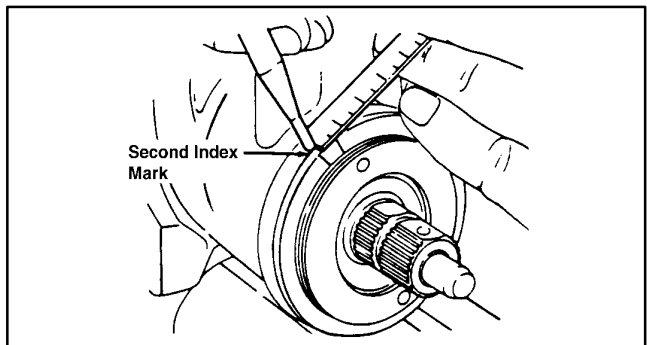

Figure 44
7. Using an inch–pound torque wrench and 12 point deep socket, measure torque required to turn stub shaft. Take reading with handle of torque wrench near vertical position (Fig. 44). Turn stub shaft to right stop, then back  $\frac{1}{4}$  turn at an even rate. Record torque reading. Torque reading should be 4 – 10 in–lb (5 – 12 kgcm2). If not, adjuster plug may not be tightened properly or may have turned during adjuster plug nut installation. Thrust bearings and races may also be damaged.